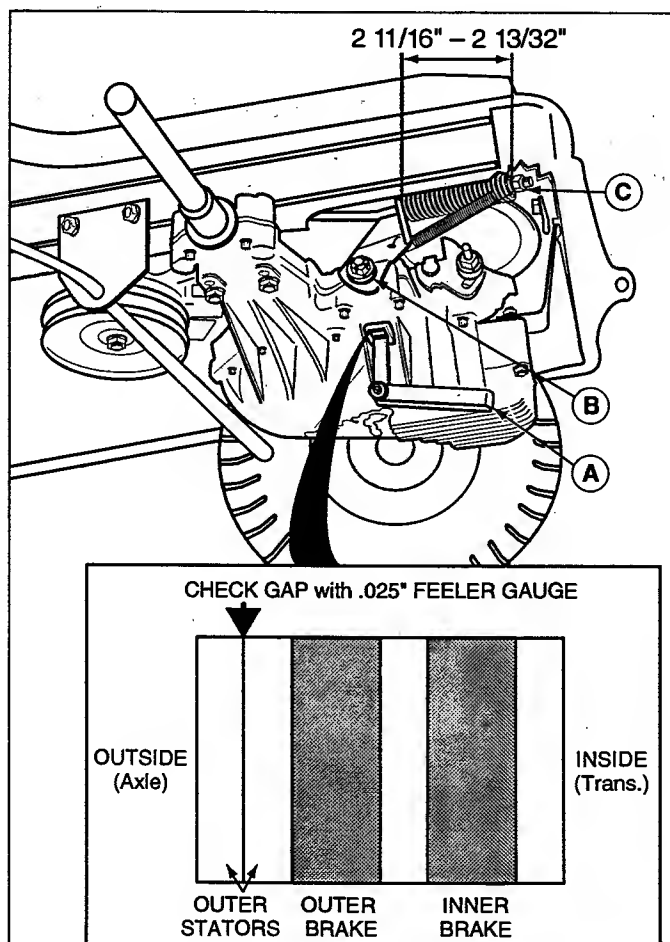

Figure 25. Brake Adjustment (Hydro Model)
2. Place a .025" feeler gauge (A, figure 25) between the two outer brake stators (refer to inset illustration). The gap should be between .025"–.030". To adjust:
- b. To **decrease** gap, hold feeler gauge in gap and turn nut (B) clockwise until resistance is felt on the feeler gauge. To **increase** gap, turn nut (B) counter-clockwise and recheck gap.
3. Set the parking brake. Loosen or tighten adjustment nut (C) to achieve a $2\ 11/16"$ – $2\ 13/32"$ compressed spring length as shown in figure 25.